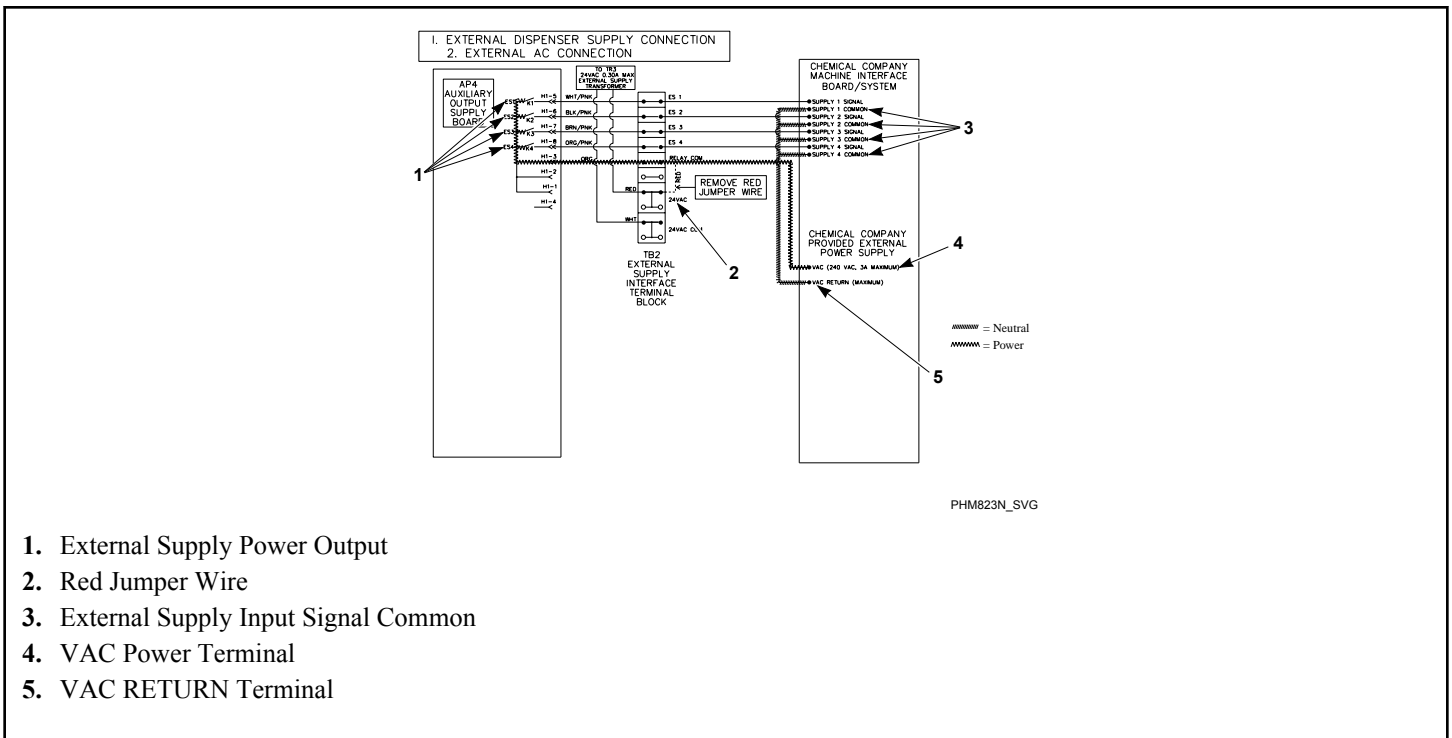

Figure 34
2. Connect one side of the external power to the “RELAY COM” and the other to the external dispenser input signals common. Refer to *Figure 34* .